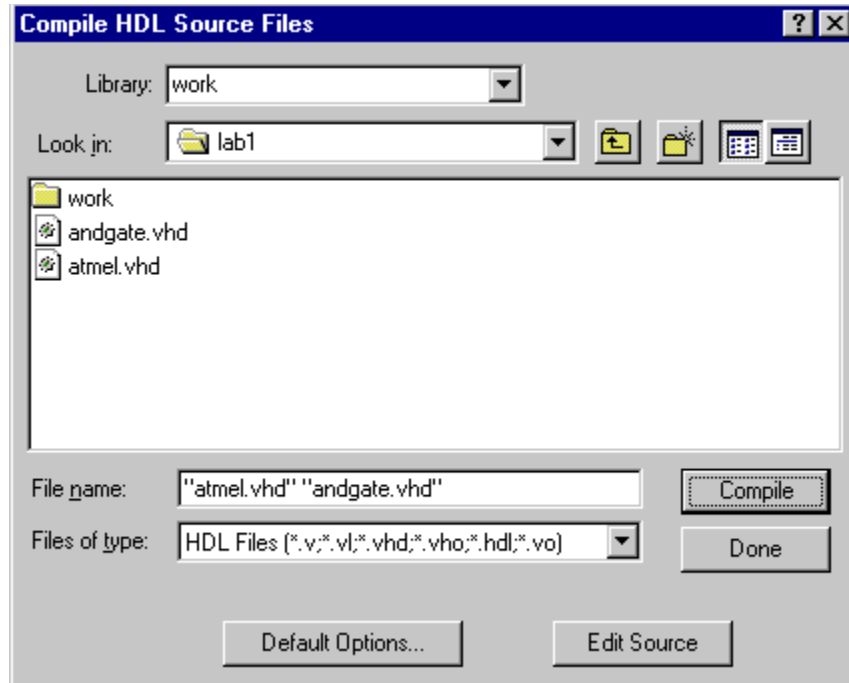

Figure 15 Browser
2. Press **yes**. A browser window appears, see **Figure 15**.